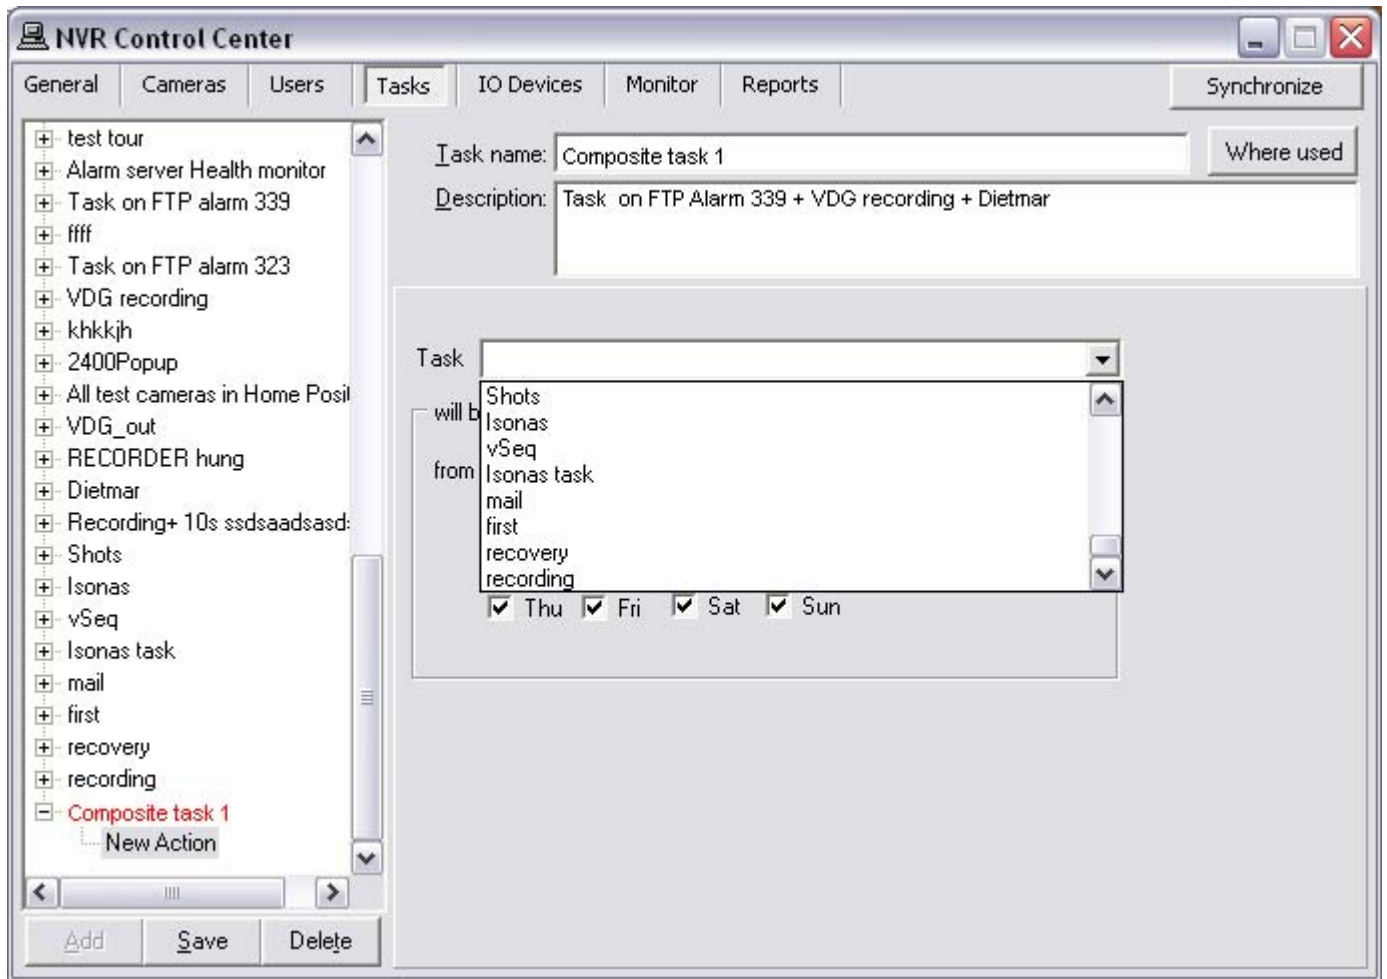

Fig 70. NVR Control Center — Tasks
2. Select a task from the list and configure a schedule for this task (Fig 70).